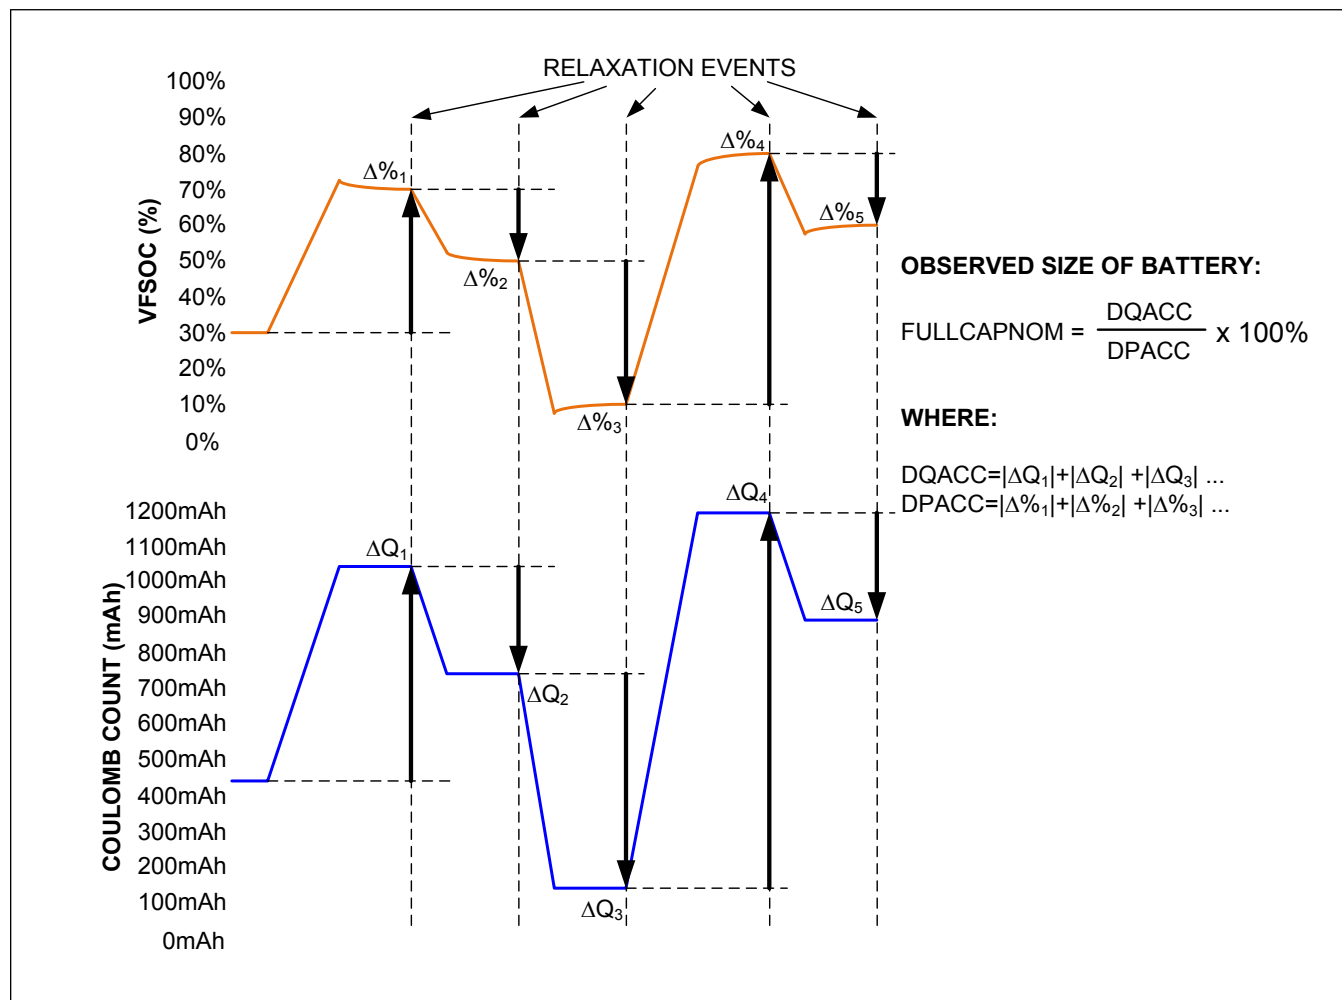

Figure 18. FullCapNom Learning
- **Cell Capacity (FullCapNom Register).** This is the total cell capacity at full, according to the voltage fuel gauge. This includes some capacity that is not available to the application at high loads and/or low temperature. The IC periodically compares percent change based on an open circuit voltage measurement vs. coulomb-count change as the cell charges and discharges, maintaining an accurate estimation of the pack capacity in mAh as the pack ages. See Figure 18.